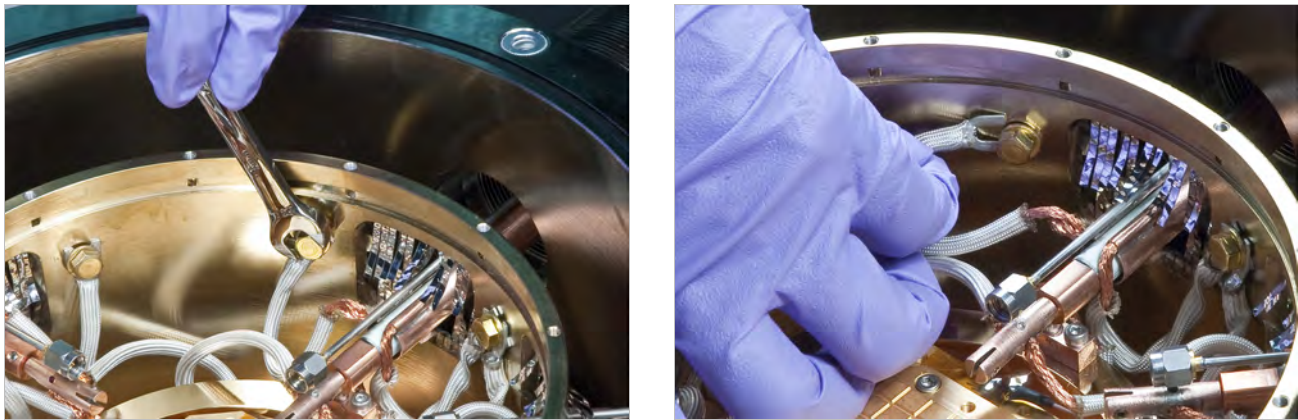

FIGURE 5-5 *Left and Right: Use a wrench to remove the arm shield braids from the radiation shield*
3. Use an 8 mm wrench to loosen the hex screws that hold the spade lugs at the ends of the arm shield braids to the radiation shield (FIGURE 5-5), but do not fully remove these screws. Slide the spade lugs from under the screw heads and let the arm shield braids fall.